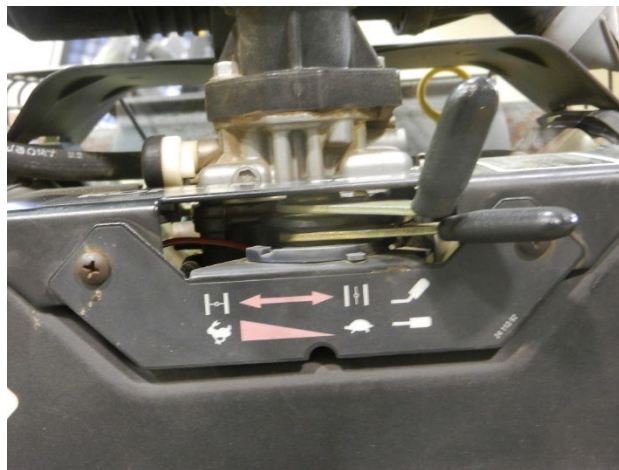

Figure 3.2
- b. Engage **Quadwheel®** and move the engine throttle to Fast. (Figure 3.2)